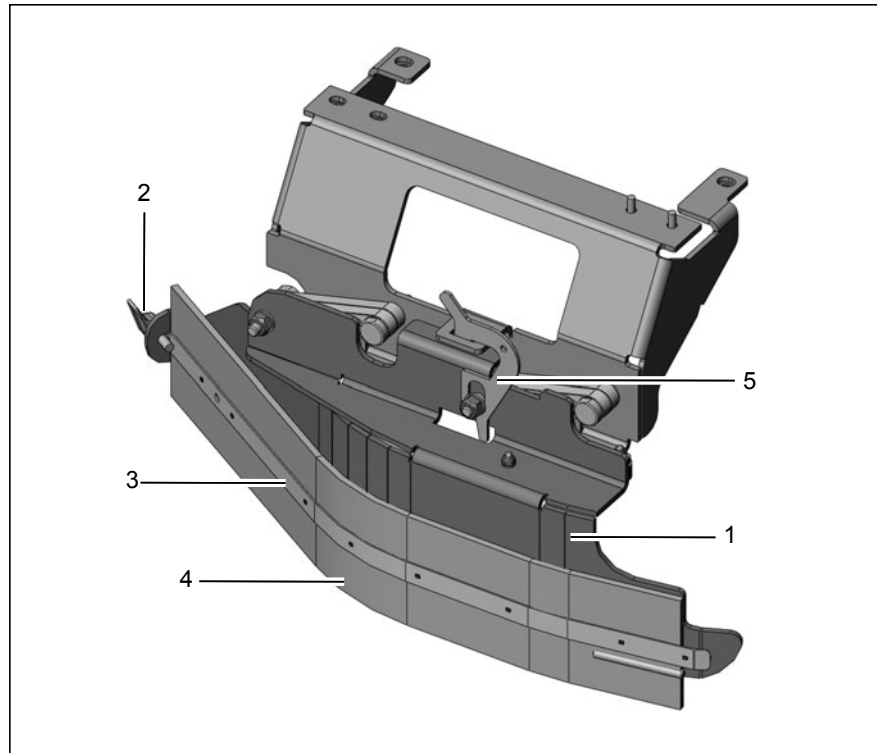

Fig.27
1. Open the locking hooks (Fig. 27/1).
Check the deflector rubber (Fig. 27/4) daily or as required and change it when necessary.
1. Loosen the wing nut (Fig. 27/2).
2. Slide the clamping rail (Fig. 27/3) to the front until the hooks on the inner side are free and the clamping rail can be moved away.
3. Change the deflector rubber (Fig. 27/4).